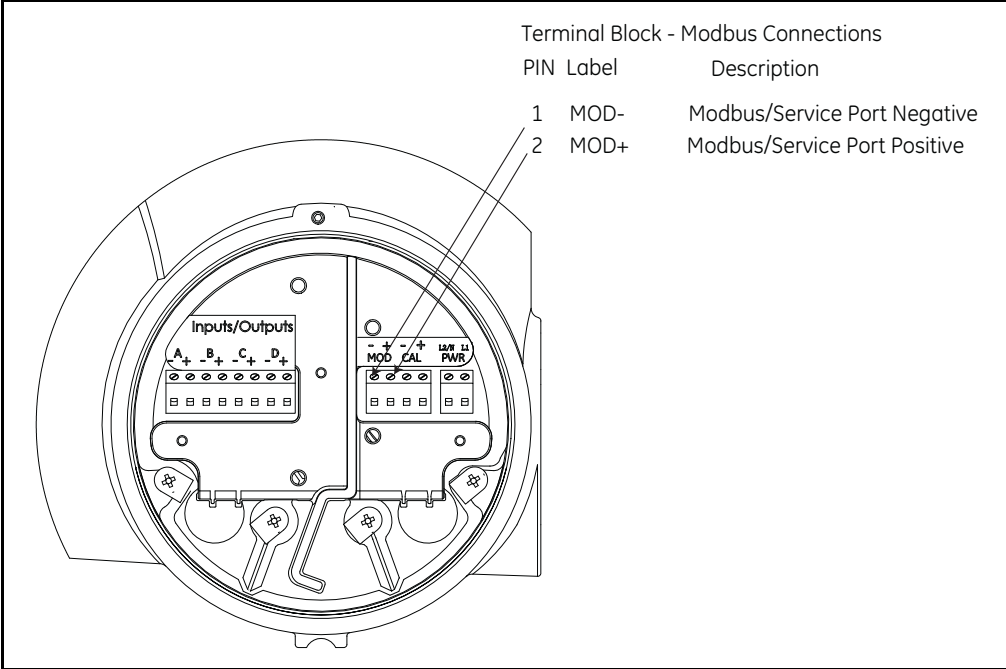

Figure 13: Modbus Connections
- 3. Feed one end of the cable through the conduit hole, wire it as shown in *Figure 13* below.